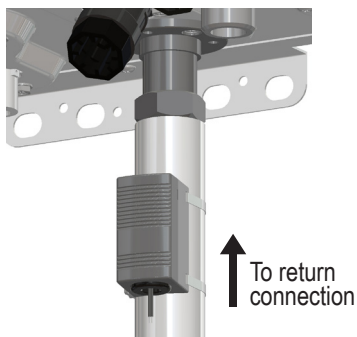

Figure 6
- ④ Install the temperature sensor:
- Sensor orientation must be installed as pictured. (See Figure 6)